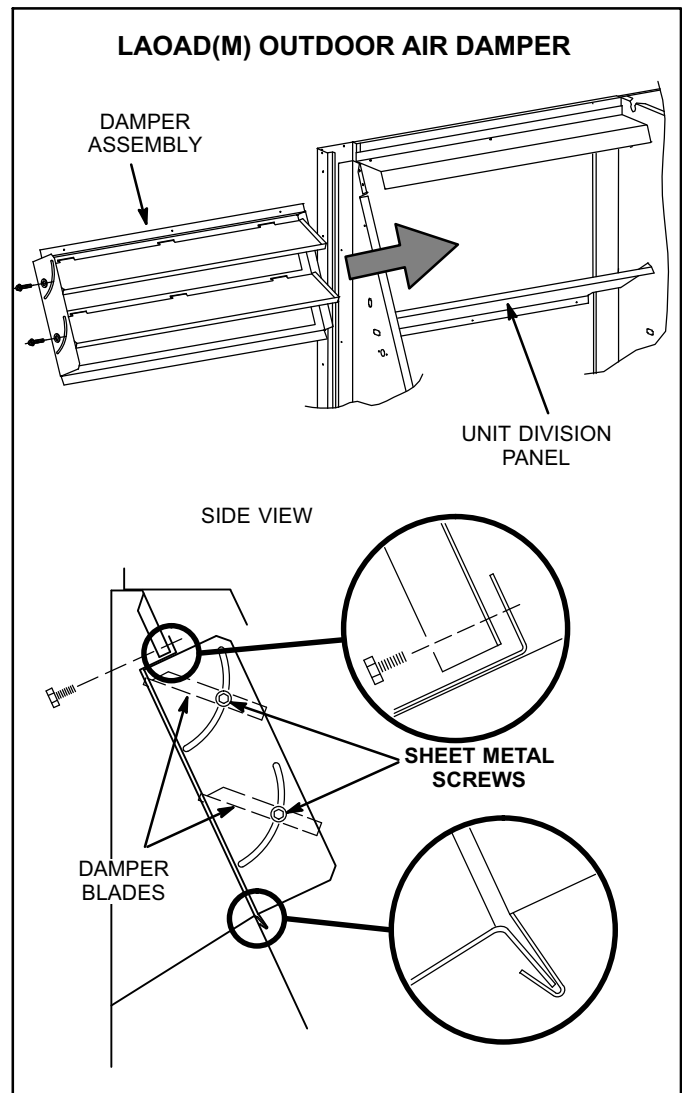

FIGURE 24
LAOAD(M)10/15 used on TGA090S/150 units consists of a set of dampers which may be manually or motor (M) operated to allow up to 25 percent outside air into the system at all times (see figure 24). Either air damper can be installed in TGA units. Washable filter supplied with the outdoor air dampers can be cleaned with water and a mild detergent. It should be sprayed with Filter Handicoater when dry prior to reinstallation. Filter Handicoater is R.P. Products coating no. 418.